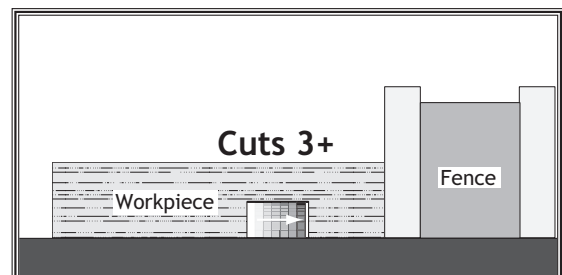

Figure 61. Additional cuts.
8. Continue making cuts toward the center of the dado until the dado is complete (see **Figure 61**).